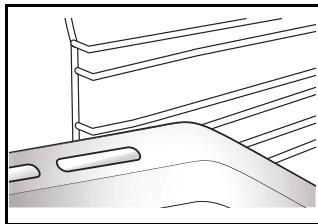

Fig. 2
13. Other accessories, such as the drip tray and baking tray, are inserted in the same way as the wire shelf (Fig. 2).